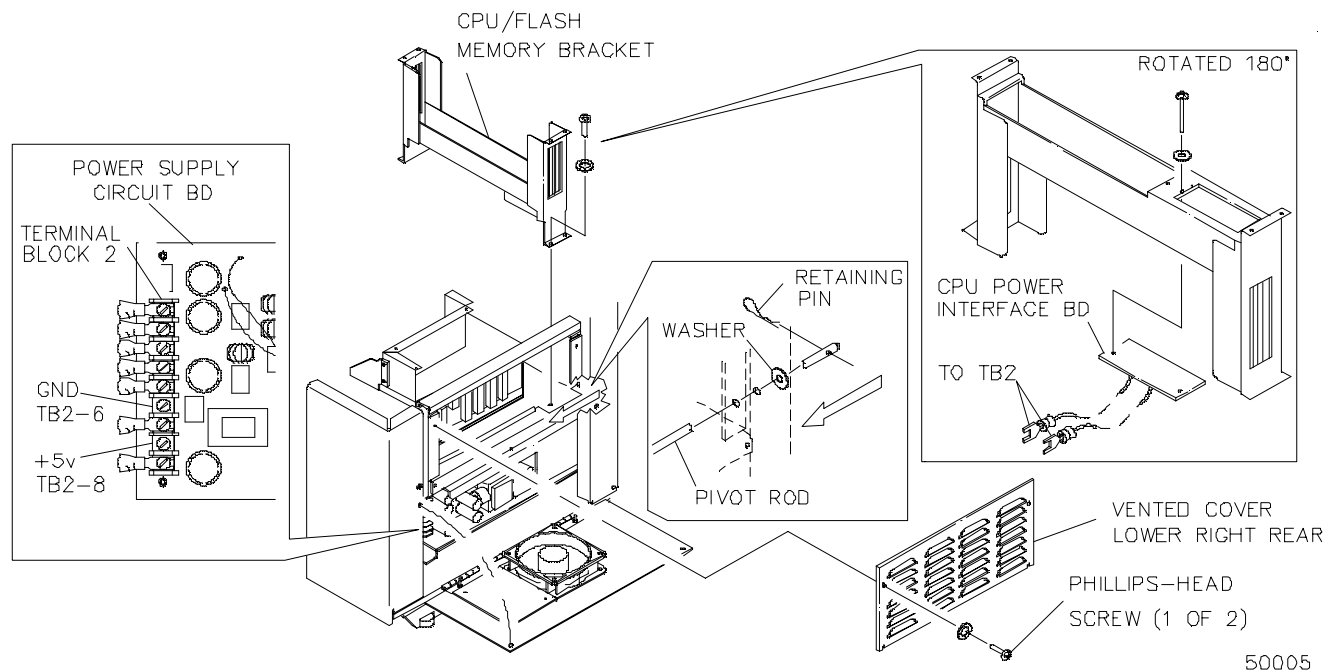

Figure 4-5. CPU Power Interface Bd
2. Remove rear vented cover (**Figure 4-5**).
5. Remove card cage pivot rod hardware (**Figure 4-5**).
7. Remove the CPU Bd Bracket Assy from the back of the instrument (**Figure 4-5**).
- b. Disconnect two wires from CPU Power Interface Bd to TB2 on power Supply Bd (**Figure 4-5**).
- (1) Disconnect +5V wire (red) at TB2-8.
- (2) Disconnect GND wire (black) at TB2-6.
8. Remove board with mounting hardware from two places on bracket assembly (**Figure 4-5**).